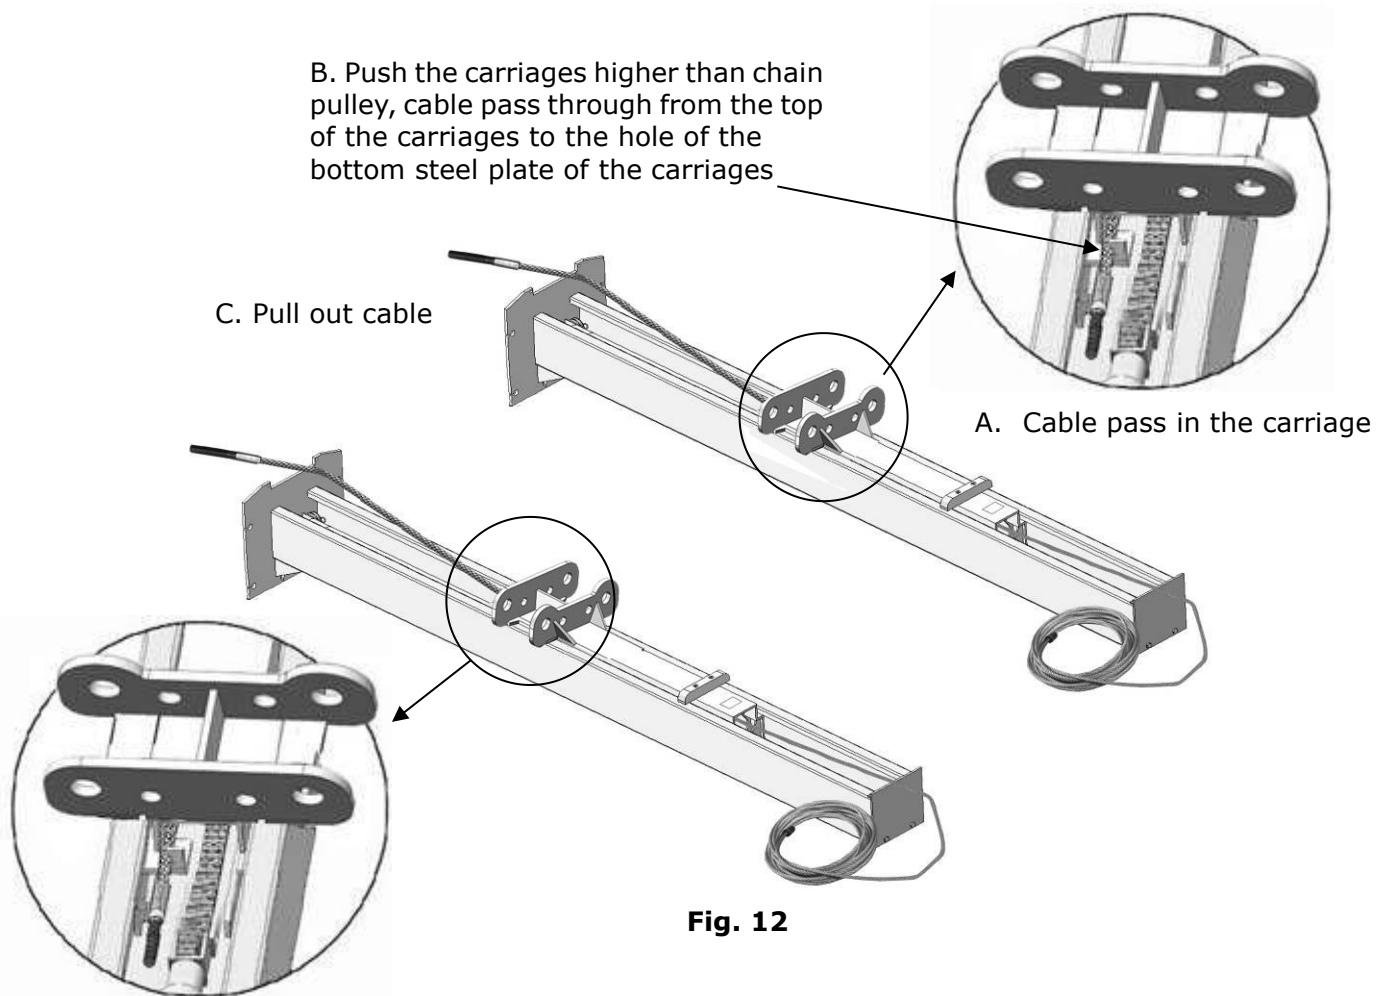

Fig. 12
1. Put down columns and then push the carriages higher than chain pulley (**See Fig. 12**).